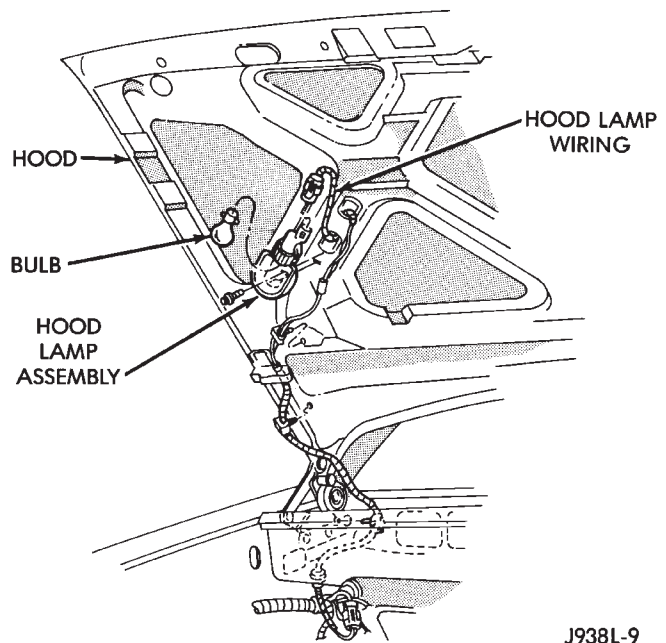
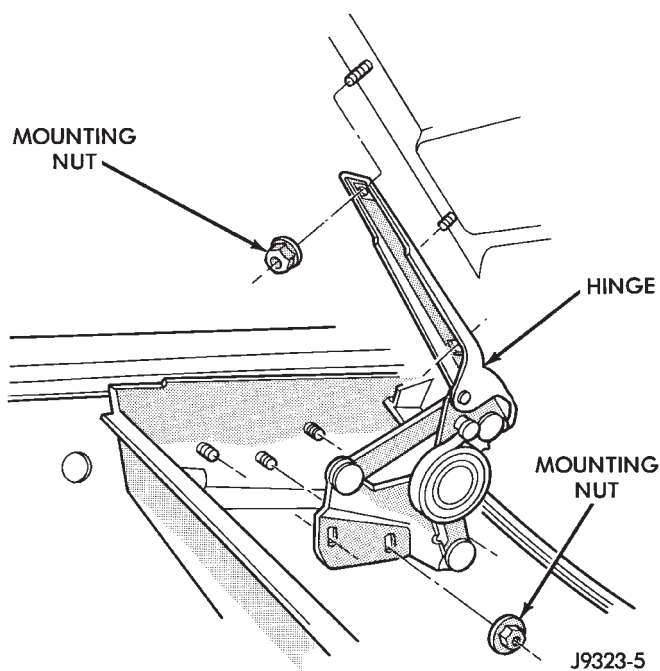

Fig. 10 Underhood Lamp
Fig. 11 Hood Hinge
- (1) Raise hood.
- (2) Disconnect underhood lamp wire harness connector (Fig. 10), if equipped.
(3) Mark location of the hood hinges and hinge shims (Fig. 11) for installation alignment.
(4) Remove nuts that attach hinges to hood. Remove hood from vehicle with aid of a helper.
(2) Align hinges and shims (Fig. 11) with installation reference marks. Tighten hinge nuts to 23 N•m (17 ft-lbs) torque.
(3) Test latch release cable and latches for proper operation.
(4) Connect underhood lamp wire harness connector (Fig. 10).
(5) Inspect hood for proper alignment and adjust as necessary.
- (1) Remove hood from vehicle.
- (2) Remove hinge retaining nuts from studs (Fig. 11).
- (3) Remove hinge from inner cowl side panel.
- (1) Position hinge over studs (Fig. 11).
- (2) Install hinge retaining nuts on studs. Tighten retaining nuts to 23 N•m (17 ft-lbs) torque.
- (3) Install hood.
- (4) Adjust hood as necessary. If necessary, refer to adjustment procedure.